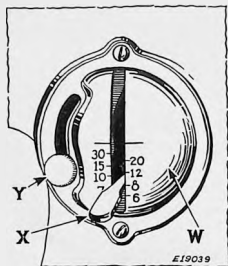
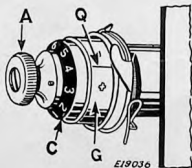

FIG. 17. SHOWING LEVER FOR REVERSING DIRECTION OF FEED AND REGULATING LENGTH OF STITCH
FIG. 21. NEEDLE THREAD TENSION
Adjust the stitch regulator X, **Fig. 17** to make the longest stitch and loosen the needle thread tension A, **Fig. 21**, so that the stitches may be easily removed.
To feed the material **from you**, push down the stitch regulating lever X, Fig. 17 as far as it will go.
The numerals "0 to 9" on the dial C, Fig. 21 indicate the different degrees of tension that can be obtained. The numbers do not denote the size of thread or ounces of tension.
**NOTE:** The needle thread tension, Figs. 21 to 23 inclusive, is correctly adjusted at the factory to produce the complete range of tensions with one revolution of the thumb nut A. There should be no necessity for removing or taking this tension apart. However, if for any reason, it becomes necessary to remove the tension, proceed as follows: